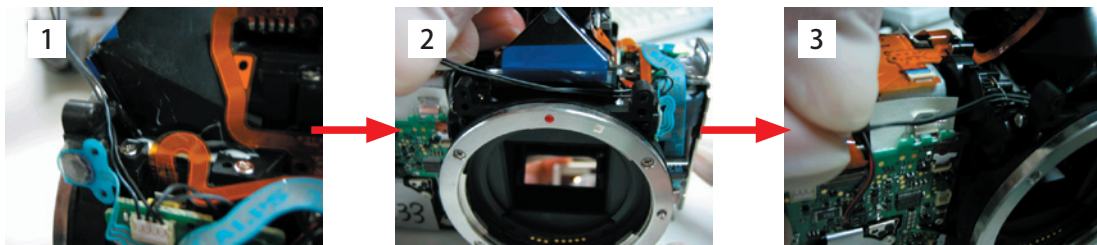

Fig. 112
(6) Route the lead wires shown in the Fig. 112 and handle the wire in order not to cover the gear or connector.